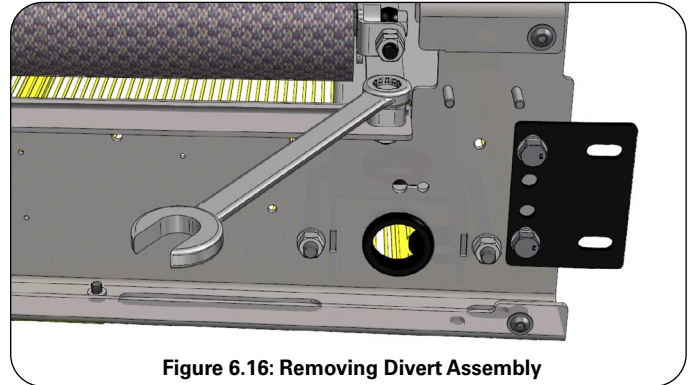

Figure 6.16: Removing Divert Assembly
- c. Using a wrench, remove the bolts and washers securing, washers securing the four corners of the Divert Assembly frame to the frame of the Modsort module (Figure 6.16).